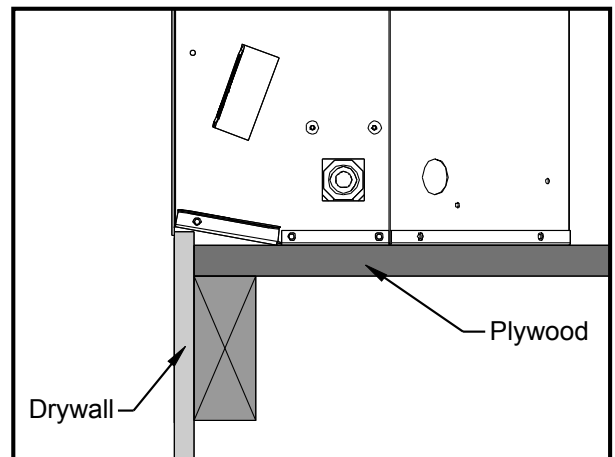

Figure 17. Drywall Facing Only Around The Haven.
Any of the four (4) different haven faces will allow for up to 1" (25mm) thick finishing wall (example drywall and tile); see Figure 17 & 18. The wall may be finished up to the fireplace standoffs with combustible materials. This facing style should tuck under the at the bottom of the front to conceal the top of the facing and the bottom of the Haven.